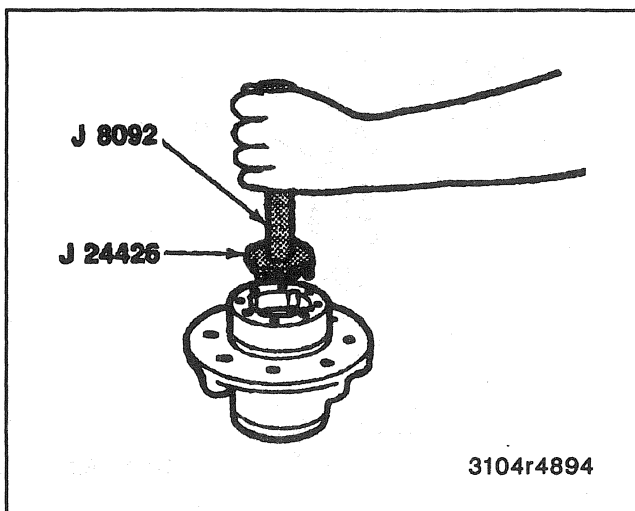

Figure 29—Removing the Outer Bearing and Cup
- 5. Outer bearing using J 8092 with J 24426 (Figure 29).